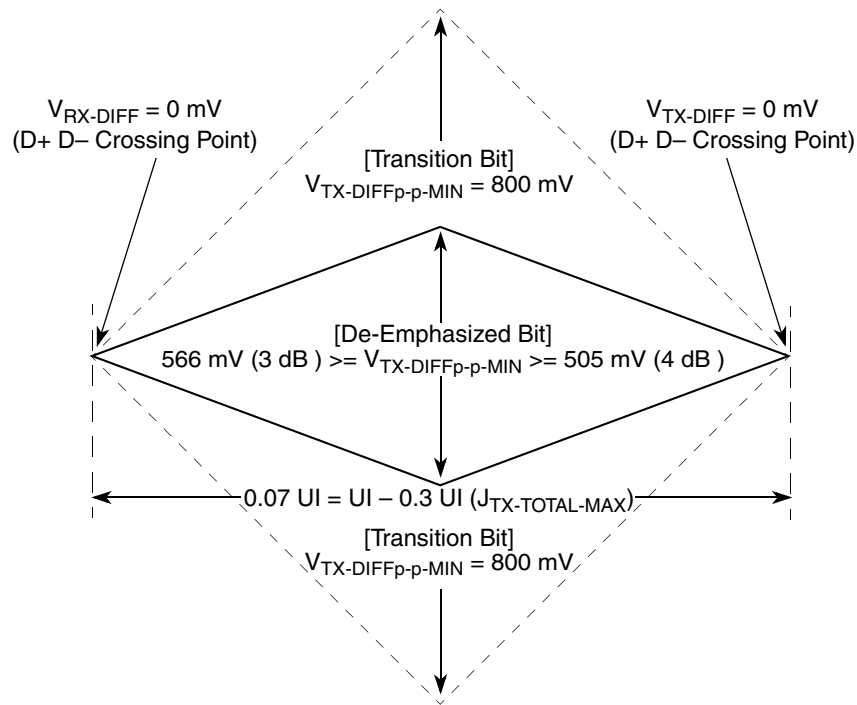
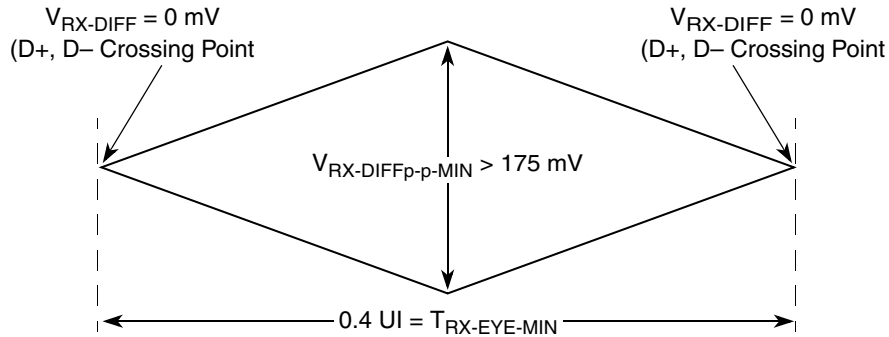
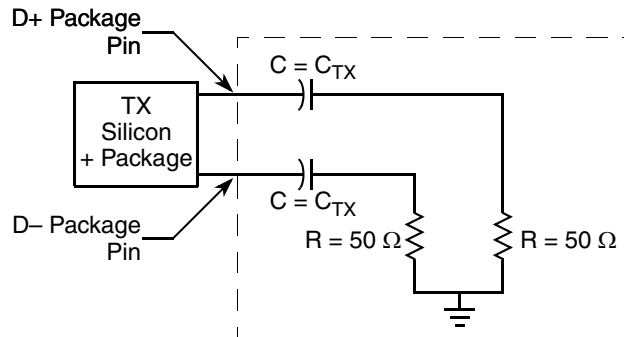

Figure 69. Minimum Transmitter Timing and Voltage Output Compliance Specifications
Figure 70. Minimum Receiver Eye Timing and Voltage Compliance Specification
Figure 71. Compliance Test/Measurement Load
The TX eye diagram in Figure 69 is specified using the passive compliance/test measurement load (see Figure 71) in place of any real PCI Express interconnect + RX component.
- Specified at the measurement point and measured over any 250 consecutive UIs. The test load in Figure 71 should be used as the RX device when taking measurements (also refer to the Receiver compliance eye diagram shown in Figure 70). If the clocks to the RX and TX are not derived from the same reference clock, the TX UI recovered from 3500 consecutive UI must be used as a reference for the eye diagram.
- The Receiver input impedance shall result in a differential return loss greater than or equal to 15 dB with the D+ line biased to 300 mV and the D- line biased to -300 mV and a common mode return loss greater than or equal to 6 dB (no bias required) over a frequency range of 50 MHz to 1.25 GHz. This input impedance requirement applies to all valid input levels. The reference impedance for return loss measurements for is 50 ohms to ground for both the D+ and D- line (that is, as measured by a Vector Network Analyzer with 50 ohm probes - see Figure 71). Note: that the series capacitors CTX is optional for the return loss measurement.
The RX eye diagram in Figure 70 is specified using the passive compliance/test measurement load (see Figure 71) in place of any real PCI Express RX component.
Note: In general, the minimum Receiver eye diagram measured with the compliance/test measurement load (see Figure 71) will be larger than the minimum Receiver eye diagram measured over a range of systems at the input Receiver of any real PCI Express component. The degraded eye diagram at the input Receiver is due to traces internal to the package as well as silicon parasitic characteristics which cause the real PCI Express component to vary in impedance from the compliance/test measurement load. The input Receiver eye diagram is implementation specific and is not specified. RX component designer should provide additional margin to adequately compensate for the degraded minimum Receiver eye diagram (shown in Figure 70) expected at the input Receiver based on some adequate combination of system simulations and the Return Loss measured looking into the RX package and silicon. The RX eye diagram must be aligned in time using the jitter median to locate the center of the eye diagram.
The reference impedance for return loss measurements is 50. to ground for both the D+ and D- line (that is, as measured by a Vector Network Analyzer with 50. probes—see Figure 71). Note that the series capacitors, C_{TX} , are optional for the return loss measurement.